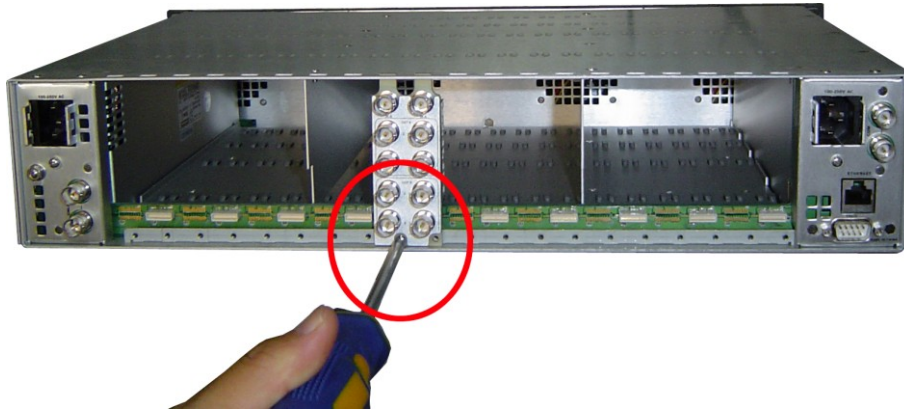

Figure 3-3 Rear Panel-Fasten the Back Connector
Step 2 Fasten the screw to fix the back connector, as shown in Figure 3-3.